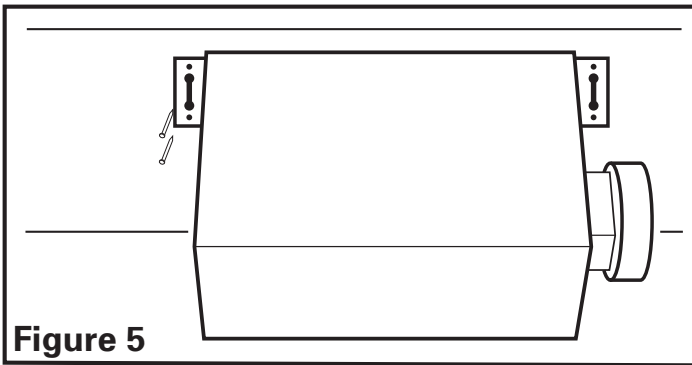
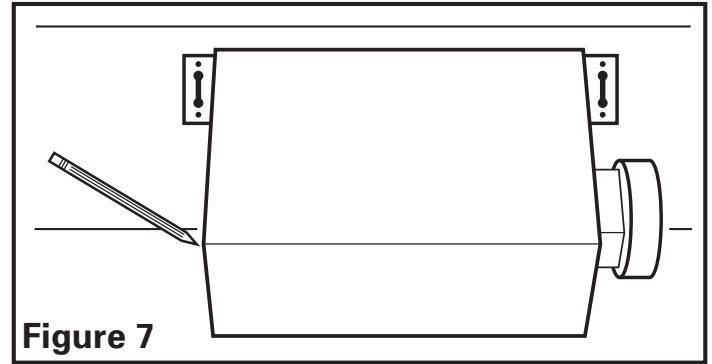

Figure 5
Figure 7
- 1a. **Mounting Tab Installation:** Line up housing so that it will be flush with the finished ceiling. Position the fan so that the tabs rest flat against the joist and secure with screws or nails (not provided) to ensure proper installation (**Figure 5**).
- 1a. **Mounting Tab Installation:** Position housing against the joist and trace an outline of the housing onto the ceiling material (**Figure 7**). Set housing aside and cut opening, being careful not to cut or damage any electrical or other hidden utilities. Place housing next to the joist and insure that it is flush with the finished ceiling. Secure with screws or nails (not provided) to the joists (**Figure 5**).